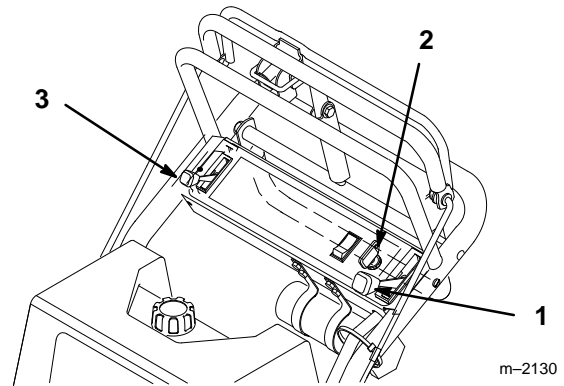

Figure 18
3. Move engine speed control to half way (Fig. 18).
4. Move choke control to CHOKE position before starting a cold engine (Fig. 18).
1. Move the throttle lever to “SLOW” (Fig. 18).
2. Turn the ignition key to “OFF” (Fig. 18).